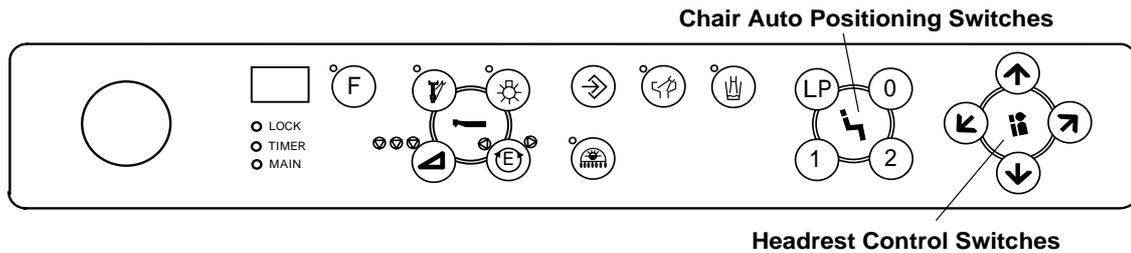

Fig.3-5 Main Control Panel
(6) Chair Auto Positioning Switches (Fig.3-5)
(7) Chair Headrest Control Switches (Fig.3-5)